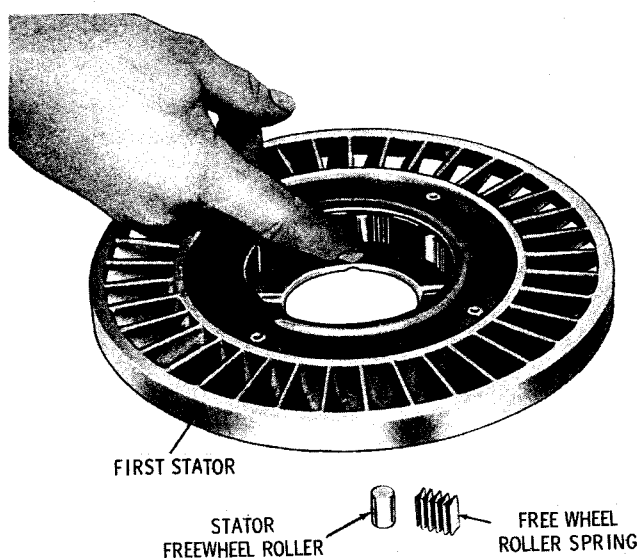

Fig. 6-3. Assembling first-stator assembly (TC 300)
(2) Install springs 13 against the rollers in the position shown in figure 6-3. The springs must be installed with the open ends toward the inside diameter of the stator.
(3) Install freewheel roller race 16 (A, foldout 5) into the stator until it rests on the thrust washer. Install washer 14 onto roller race 16.
(4) Place second-stator assembly 15 on the work bench with the flat side (front) down. Install rollers 12 and springs 13 in the same manner as in (1) and (2), above.
(5) With the rollers and springs properly positioned, lift the second-stator assembly up and install it onto freewheel roller race 16.